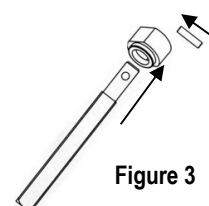

Figure 3
- Select the appropriate spindle to suit latch follower, shorten if necessary and assemble as shown in Figure 3.